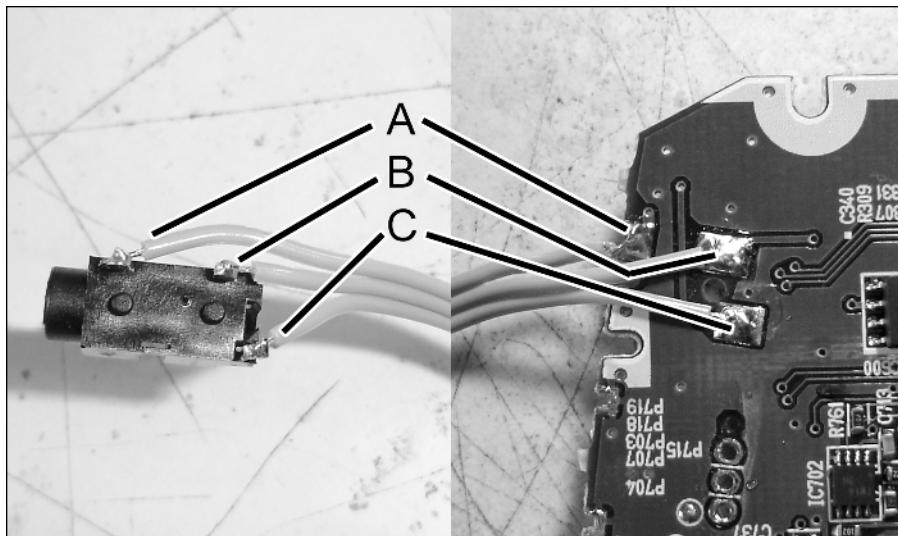

FIGURE 4-14: Connecting the headphone jack.
4. Slice a three-strand of ribbon cable 9" long. Connect it to the headphone jack and the board, as shown in Figure 4-14. (I've rotated the board 180 degrees to do the soldering.) Again, if you precut some of the wires shorter, it makes for nicer connections. (You don't *have* to do it, but I do in order to make these photos look good. I guess that's my problem.)